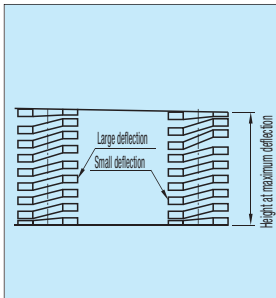
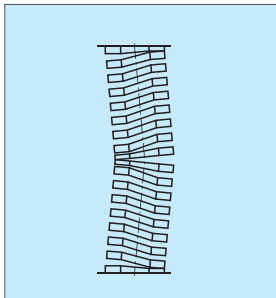

Fig. 5
Fig. 6
If you use two coil springs in series, they will tend to bend, as shown in Fig. 5. This can cause them to move out of the shaft or spotfaced holes. If this happens, the coil spring will eventually break for the same reasons described in (1) above. Due to spring load differences, moreover, the weaker spring is overcome by (and deflects more than) the stronger spring, as shown in Fig. 6. This will make the weaker spring more prone to damage, or cause it to break. Moreover, each spring constant when placing 2 springs in series is 1/2 that of a single spring.